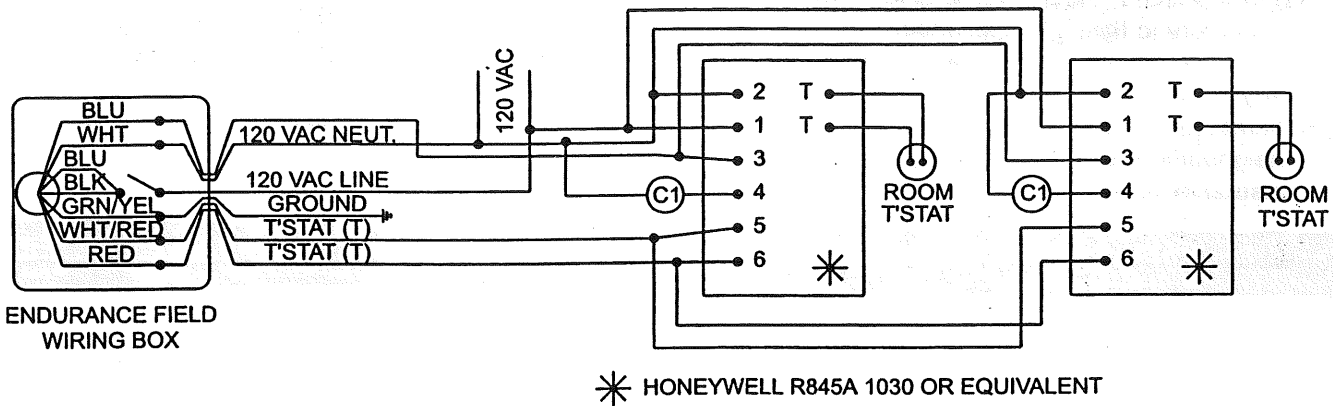

Figure 19. Multiple Zones with Circulators and Room Thermostats.
4. Multi zone/Multi-relay-circulator Installations: Multiple circulators must not exceed 5 amps total when connected to blue wire (see Figure 19).